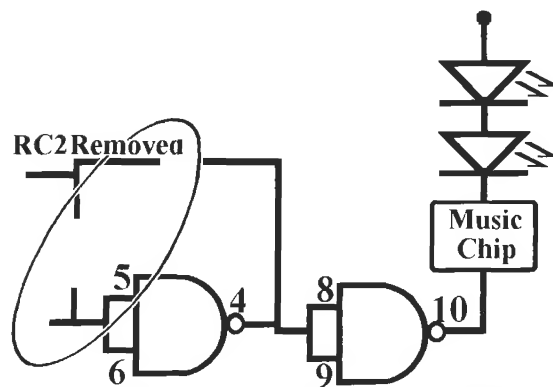

Figure L30-23
- If the sound is very scratchy, place 2 or 3 LEDs in line with the music chip, as shown in Figure L30-23. The music chips run off 1.5 volts. Too much voltage can keep them from working. The LEDs use up voltage, dropping it down to where the music chip can function properly.